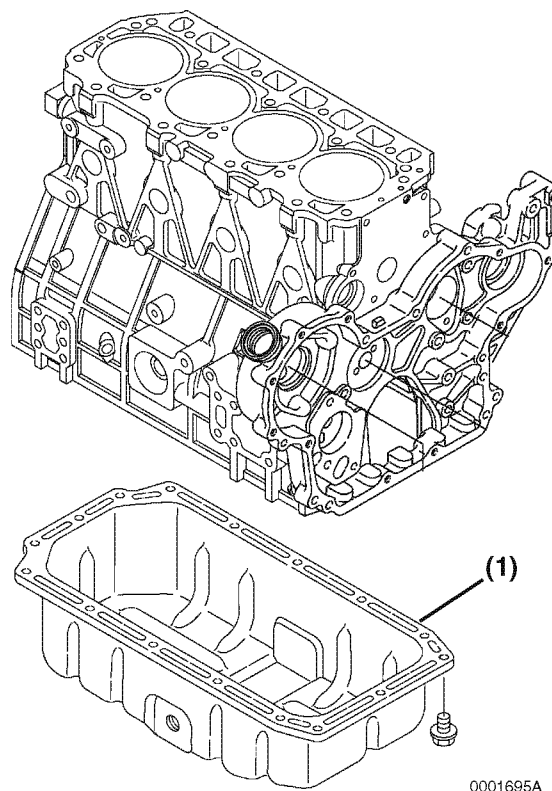

Figure 6-93
2. Remove the oil pan (**Figure 6-93, (1)**).